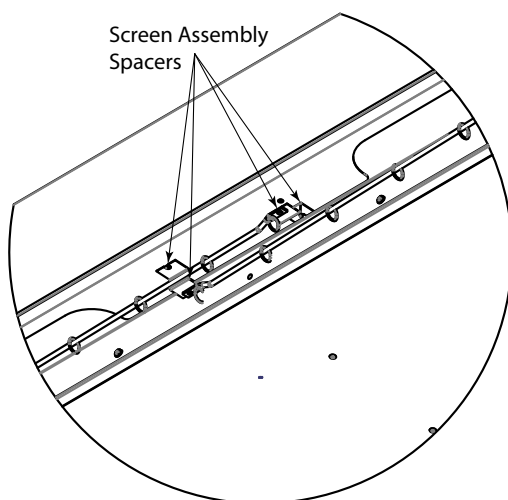

Figure 7.2 Location of Screen Assembly Spacers
2. Install screen assembly spacers in holes opposite from one another. Figure 7.2.